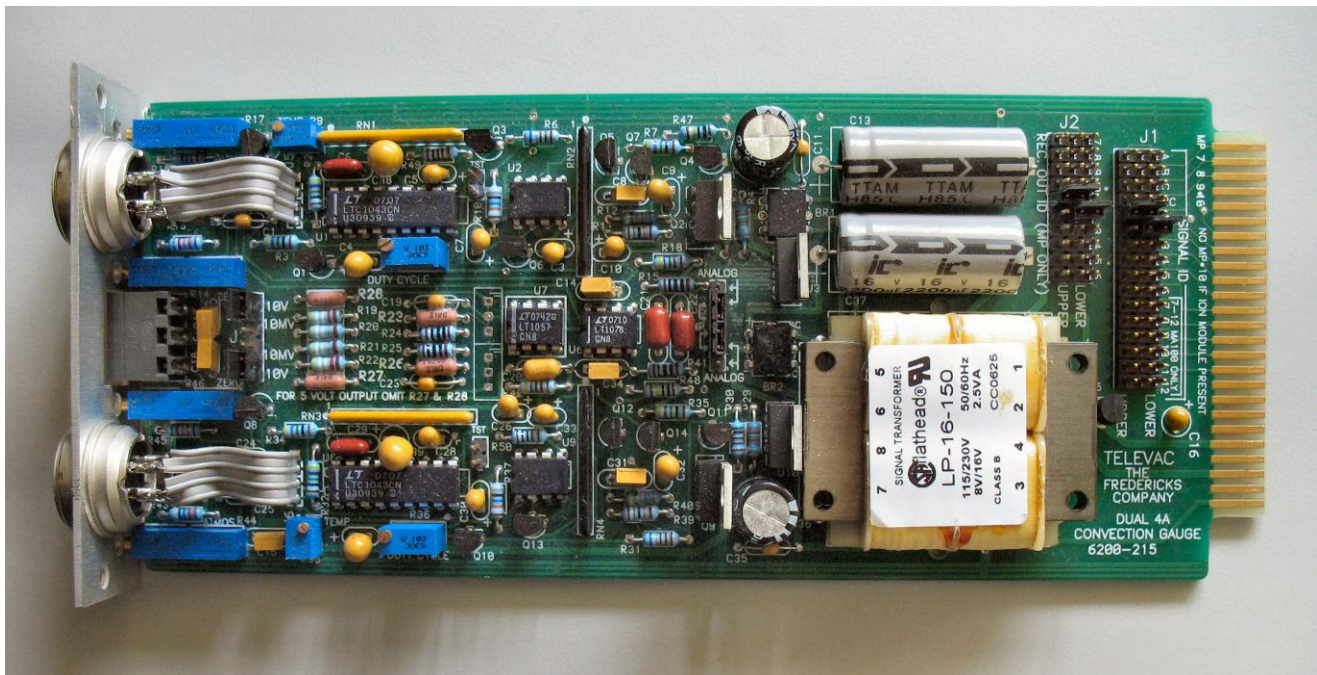

Fig. 9.3c – Dual Convection 4A Gauge Module
**CONVECTION MODULE** - A convection module is shown in Fig. 9.3c and 9.3d. This module is typical of all modules. The assignment of station identification numbers on a convection module is accomplished by placing jumpers across the appropriate pins in the SIGNAL ID and the REC OUT ID sections. The upper convection station has been named station #1 and the lower convection station has been named station #2. Also two (2) jumpers are placed in the "MP" positions of the ANALOG/MP section of the board.